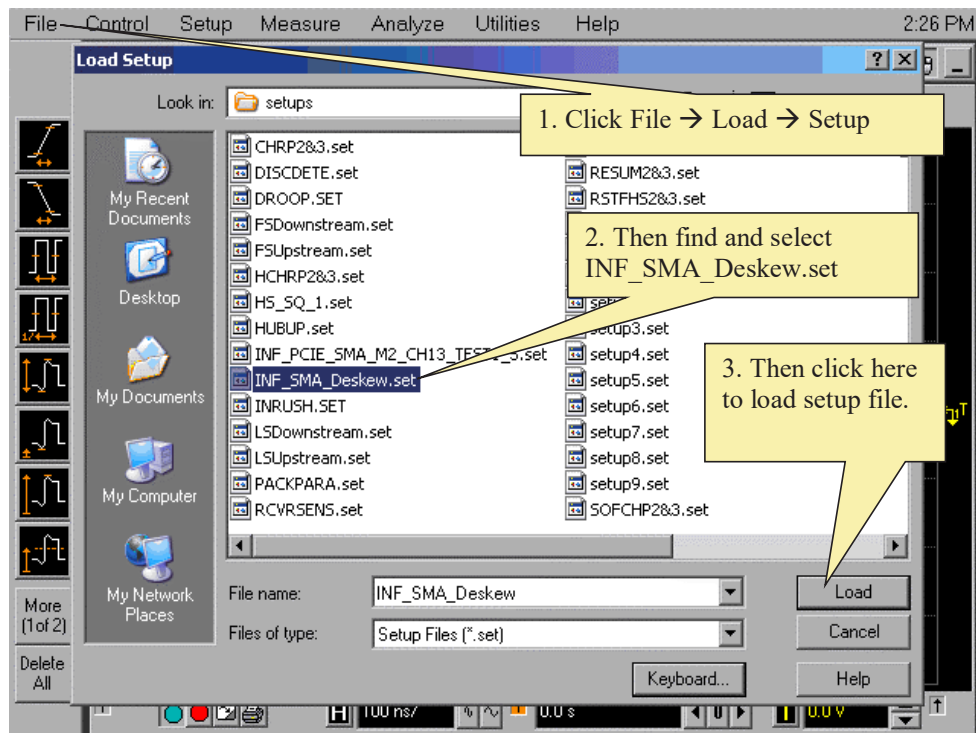

Figure 20 Load De-skew Setup.
- 2 Referring to Figure 20 below, perform the following steps: